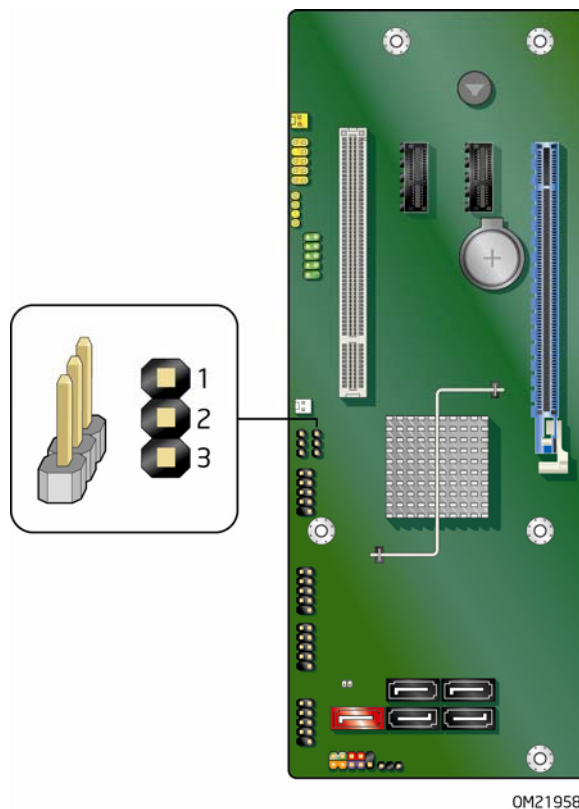

Figure 28. Location of the Clear CMOS Memory Jumper Block
The Desktop Board provides a Clear CMOS jumper block that can be used to clear its CMOS memory. Figure 28 shows the location of the jumper block; Table 17 shows the jumper settings. To clear CMOS memory:
4. Find the Clear CMOS jumper block (see Figure 28).